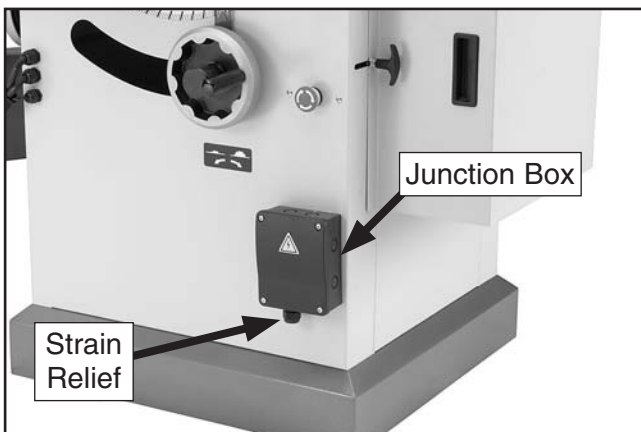

Figure 31. Location of junction box and strain relief.
1. Open the junction box shown in **Figure 31**.